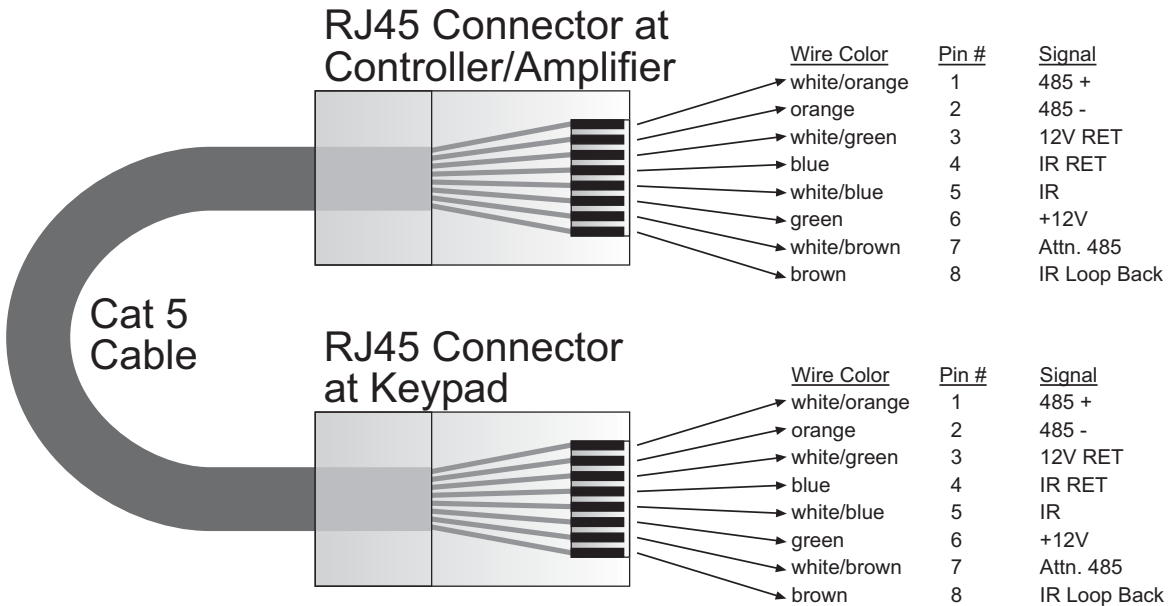

Figure 10 - CAT5 Pin Assignments (per EIA/TIA 568B) Pinned 1:1
3. With the Controller/Amplifier turned off, connect the CAT5 cable to the appropriate RJ45 connector, using **Figure 10** as a guide for CAT5 termination.
The MRC88m 'Pin-to-Pin' CAT5 cabling that can be purchased pre-fabricated at fixed lengths or self-assembled to custom lengths. The color-coded wiring standard is EIA/TIA 568B as shown in **Figure 10**. The plastic connector on the end of the CAT5 wire is "registered jack" RJ45.
1. See **Figure 10** for proper termination of the CAT5 cables to the RJ45 connectors.
1. Refer to **Figure 10** for proper termination at the zone-end of the CAT5 cable.
1. For a second keypad in the same zone, terminate the CAT5 cable in the same way as shown in **Figure 10**.